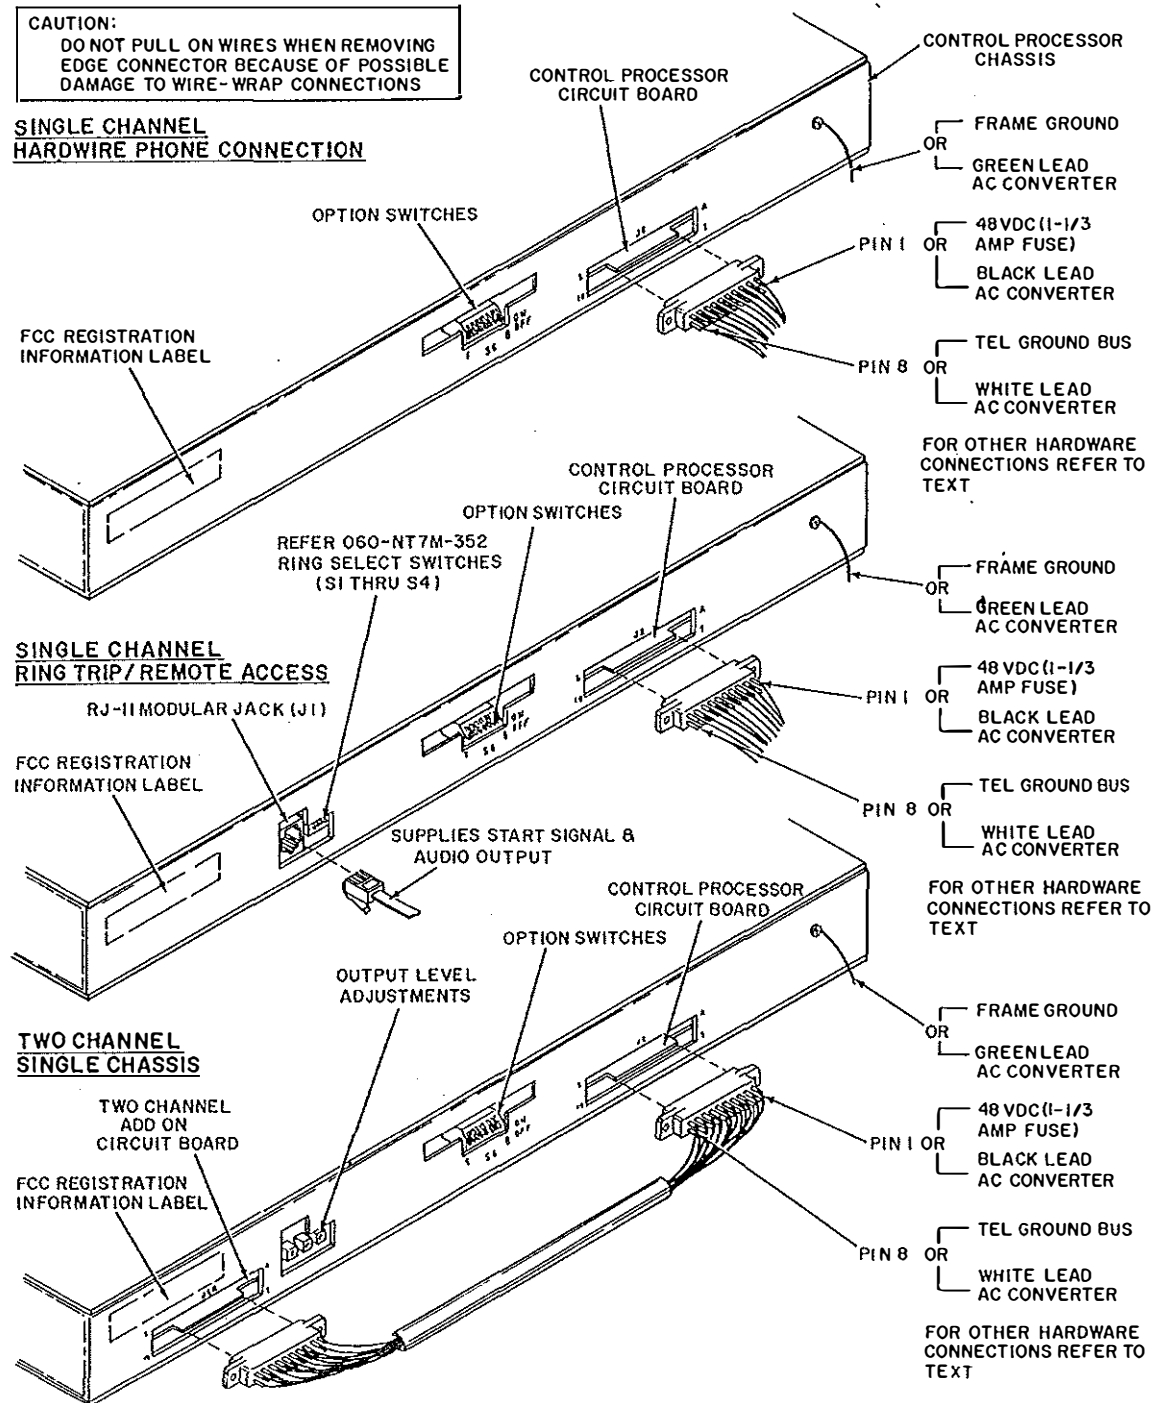
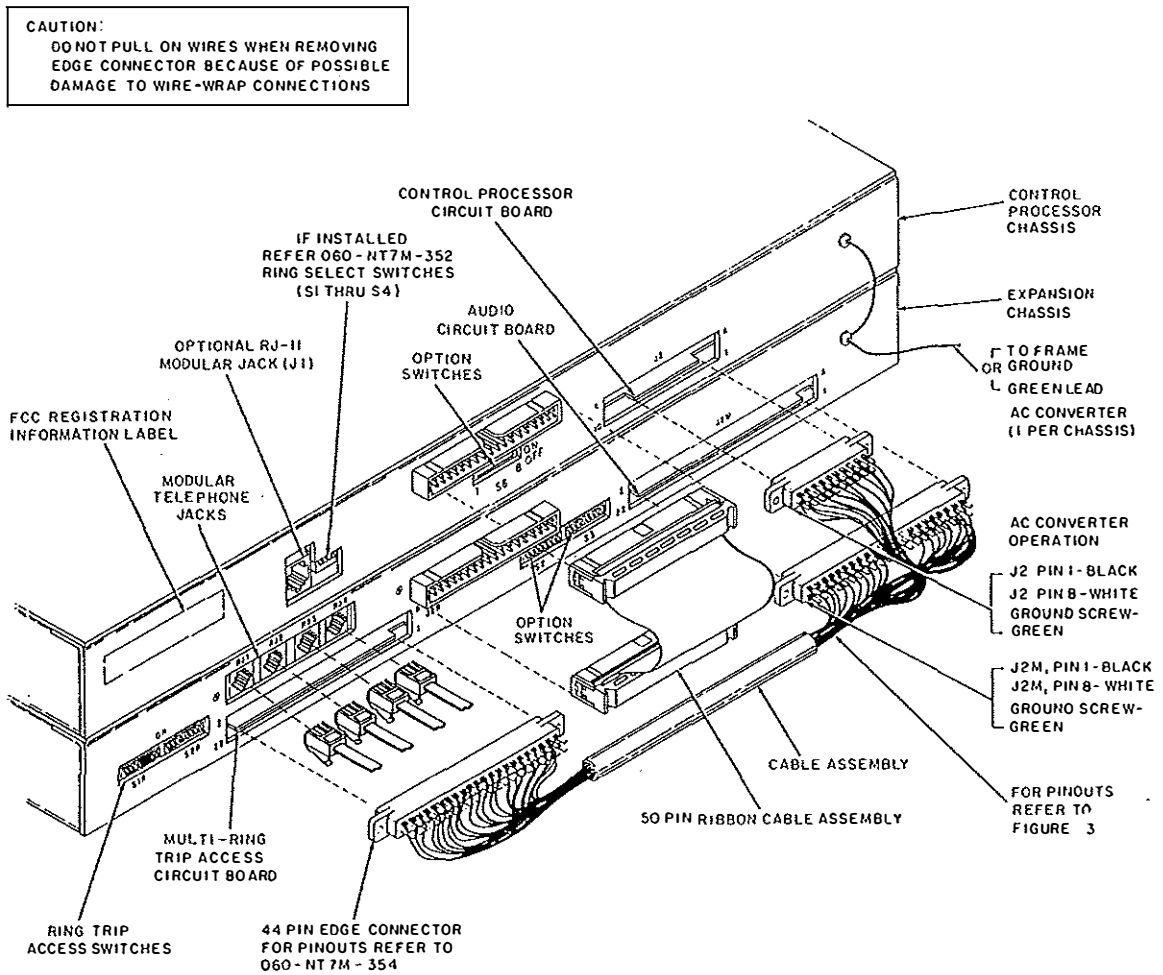

Fig. 1 - Single Chassis Simplified Wiring
Fig. 2 - Two Chassis Simplified Wiring
1.03 Simplified wiring for single chassis units (one or two audio outputs) is shown in Figure 1. Wiring for two chassis units (up to four audio outputs) is shown in Figure 2. Additional chassis may be added for connection of more lines (refer to Section 060-NI7M-203 for more details).